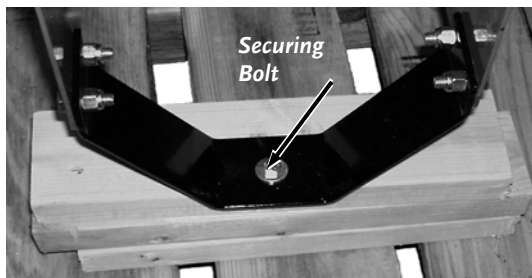

Figure 4
4. Use a 1/2" Wrench to remove the Lag Bolt and Washer securing the front of the Chipper/Shredder frame to Shipping Pallet (**Figure 4**).